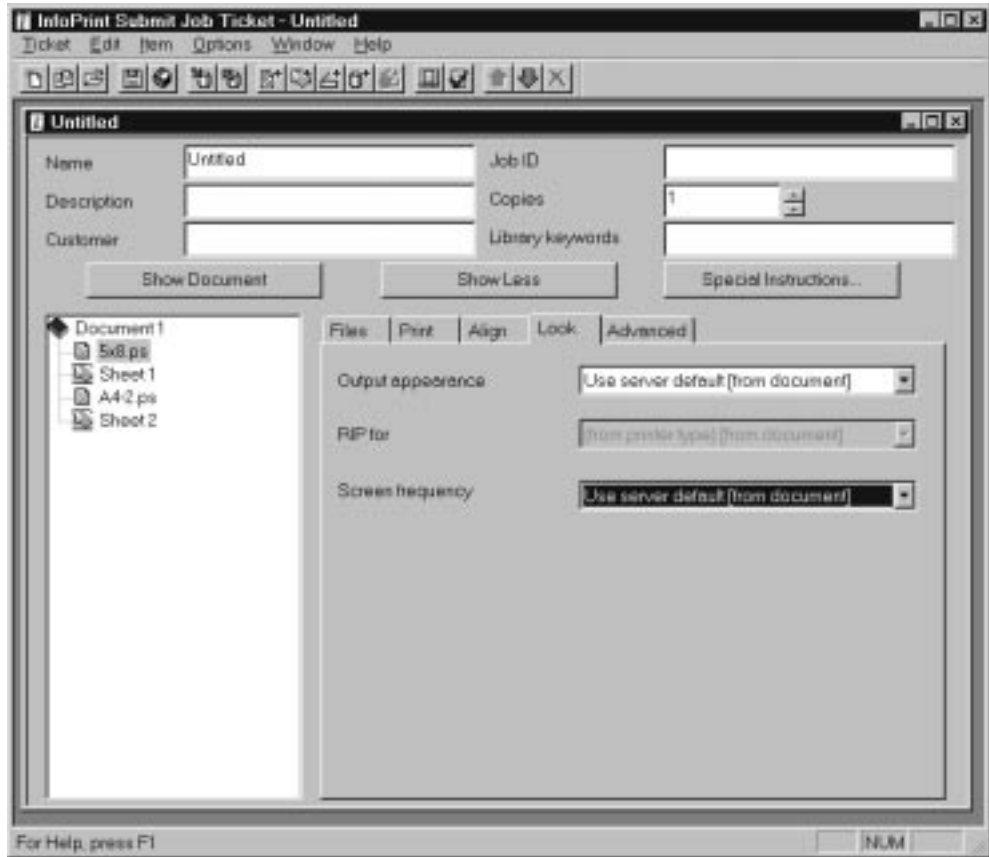

Figure 23. InfoPrint Submit Job Ticket Window - Look Tab
10. Select **Look** tab. You see the InfoPrint Submit Job Ticket window with the Look tab highlighted (Figure 23 on page 24).